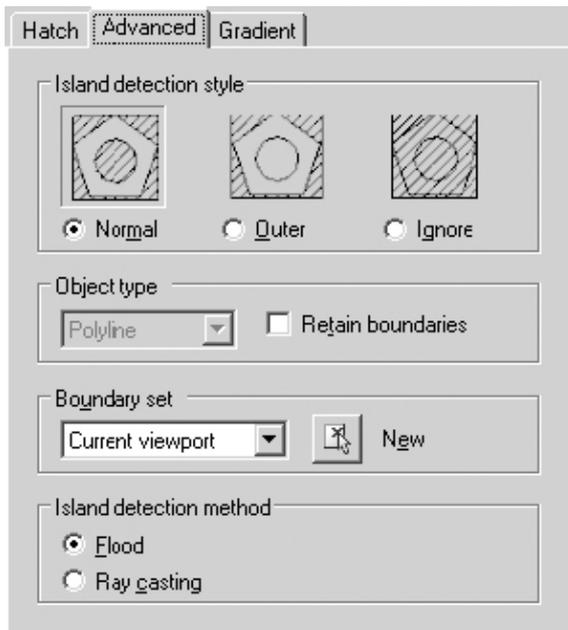

Figure 17.2b
- The **Advanced** tab (Figure 17.2b) offers you some choices in how to apply the hatching.